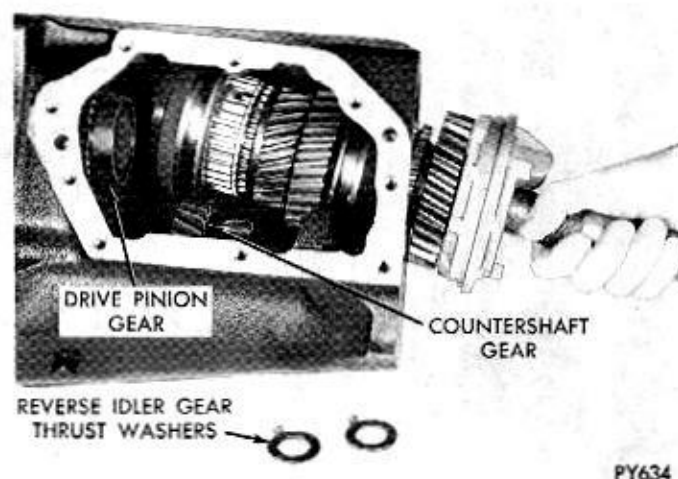

Fig. 8—Mainshaft Assembly—Removal or Installation
(26) Now slowly insert mainshaft assembly into case (Fig. 8) tilting it as required to clear cluster gears and finally entering the pilot rollers in the drive pinion gear.